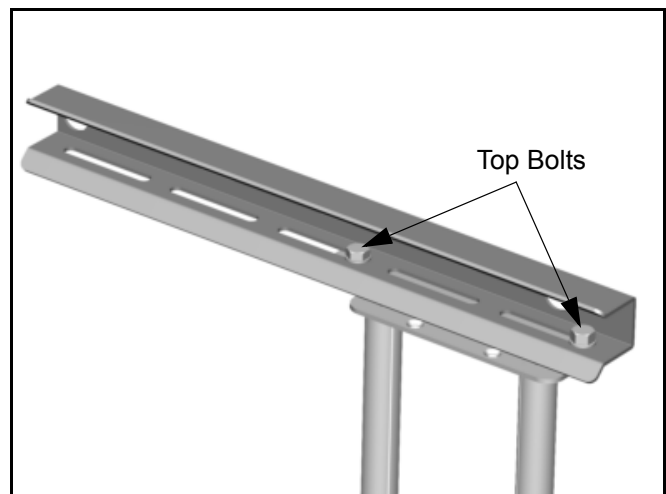

Figure 13: Adjust Swing Arm- Right of Center
- For Left of Center, see Figure 13.